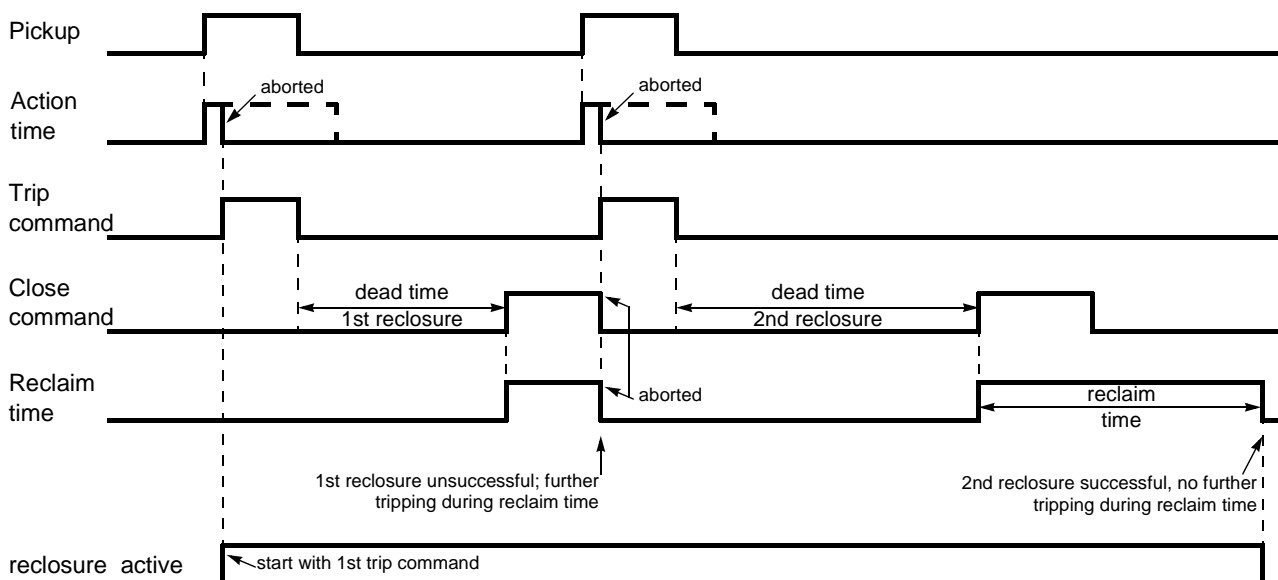

Fig. 6-101 Timing diagram of a double-shot reclosure with action time (2nd reclosure successful)
Experience shows that about 85 % of the arc faults on overhead lines are extinguished automatically after being tripped by the protection. The line can therefore be reclosed. Reclosure is performed by an automatic reclosure function (AR). An example of the normal time sequence of a double-shot reclosure is shown in Figure 6-101.